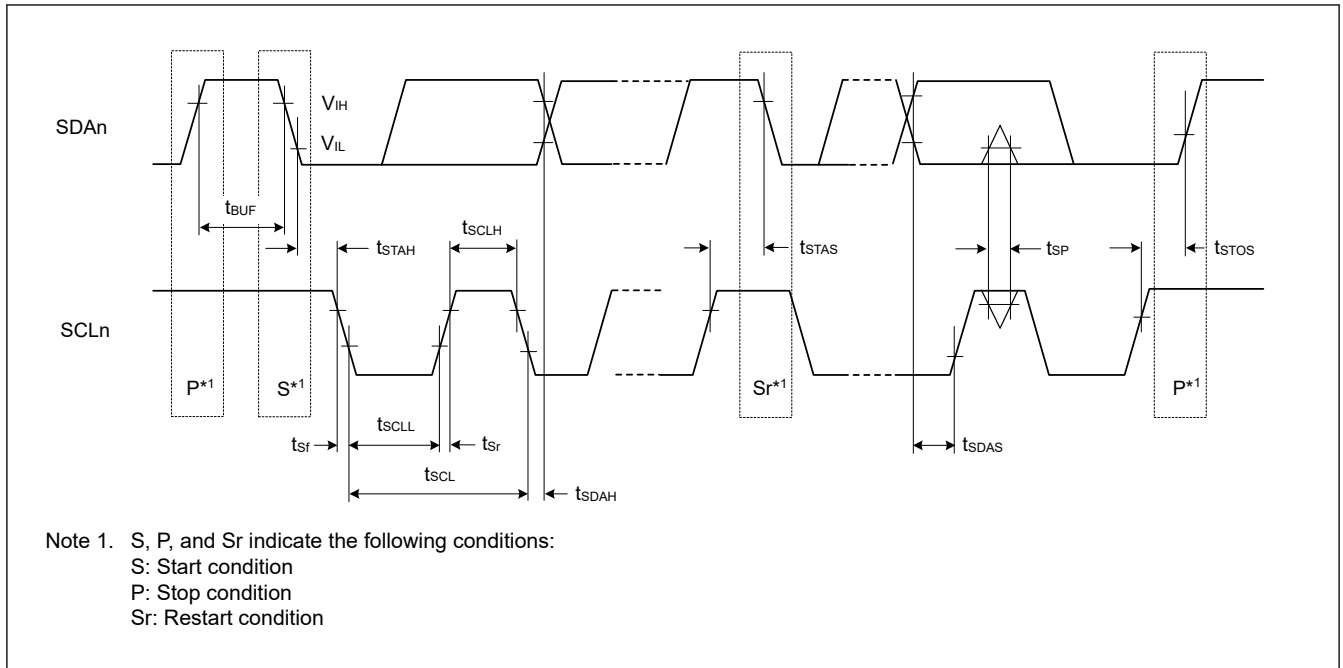

Figure 2.55 I2C bus interface input/output timing
| IIC(Standard mode,SMBus)ICFER.FMPE = 0when VCC is2.70 V or above,ICFER.FMPE = 1when VCC is1.68 to 1.95 V | SCL input cycle time   | $t_{SCL}$  | 2.70 V or above1.68 to 1.95 V | $6 (12) \times t_{IICcyc} + 1300$                   | —                         | ns              | Figure 2.55 |
| IIC (Fast mode)ICFER.FMPE = 0when VCC is 2.70 V or above,ICFER.FMPE = 1when VCC is 1.68 to 1.95 V | SCL input cycle time                                     | t SCL  | 2.70 V or above                                       | 6 (12) × t IICcyc + 600                        | —                           | ns              | Figure 2.55 |
| IIC(Fast-mode+)ICFER.FMPE =1 | SCL input cycle time   | $t_{SCL}$       | 2.70 V or above | $6 (12) \times t_{IICcyc} + 240$                    | —                         | ns   | Figure 2.55     |